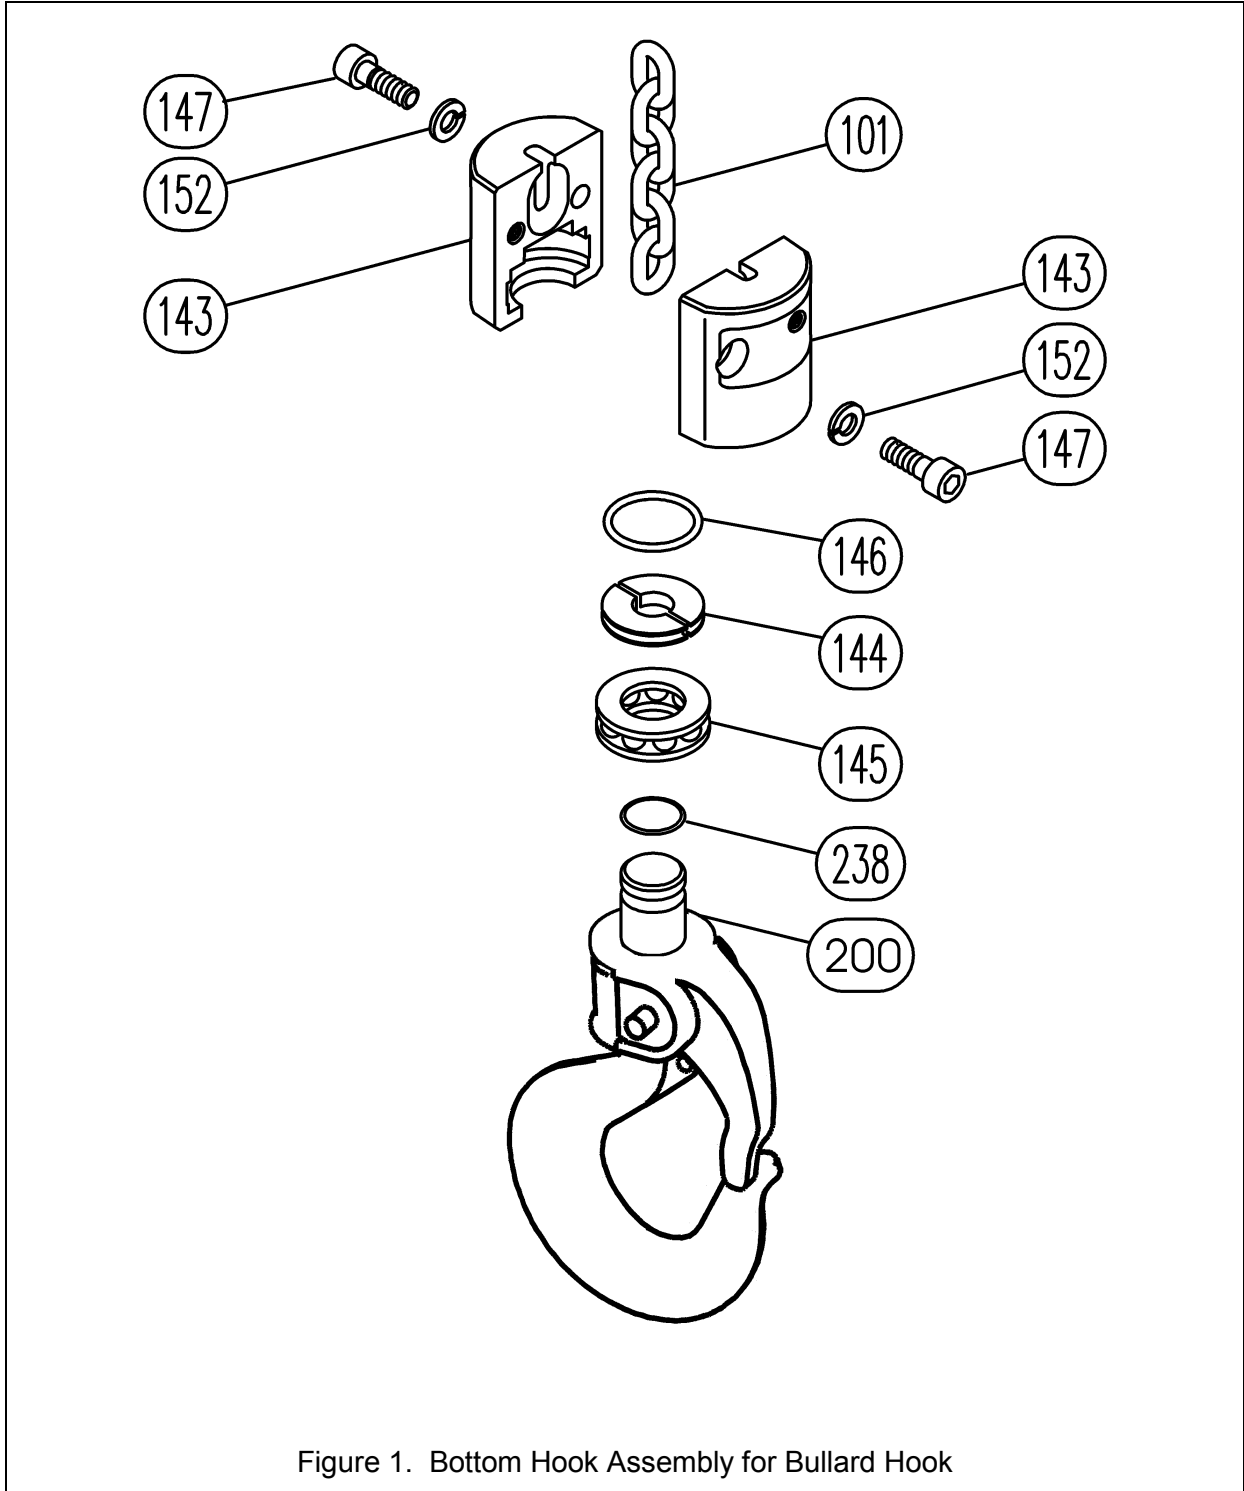

Figure 1. Bottom Hook Assembly for Bullard Hook
**For Bottom Yoke (Figures 1 and 3)**